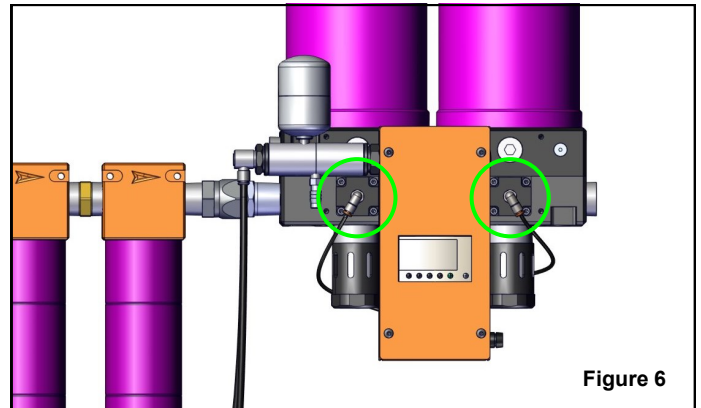

Figure 6
1. Disconnect tubing from quick-connect fitting located on piston cover. Push in on orange ring. While holding ring in, pull out tubing. Figure 6